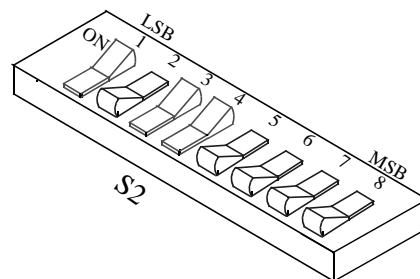

Figure 1-11 MLM S2 SWITCH SETTING
5. Set the MLM drawer S2 switches as shown in Figure 1-11. This enables the repeat gate, logic squelch gate and the transmitter.